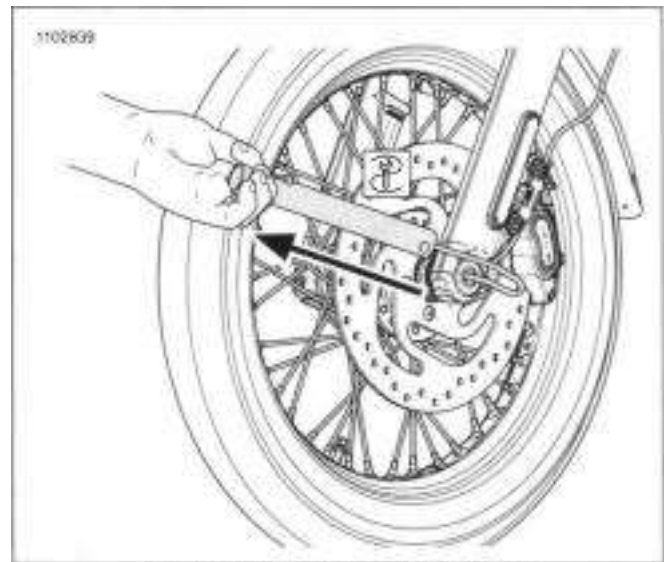

Figure 2-30. Pull Force Orientation
*See Figure 2-30. While pulling, keep scale parallel to front tire and perpendicular to fork leg.*